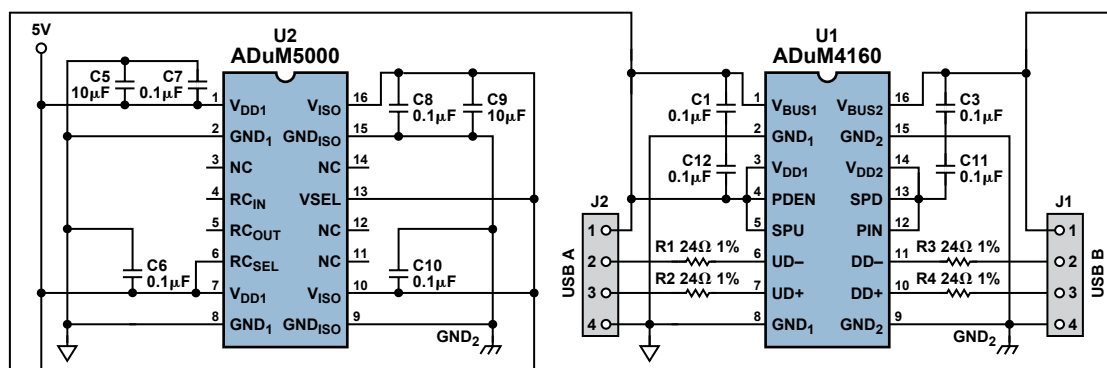

Figure 9. Isolated cable interface including *isoPower*.
- It can be used in an isolated cable configuration (Figure 9).
Driving an isolated USB cable (Figure 9) requires use of a dc-to-dc converter to supply power to the downstream port and cable. To satisfy the requirements of the USB specification, the downstream segment of the cable must provide 5-V power to the pull-up of the peripheral device. An isolated dc-to-dc converter, such as the ADuM5000, can provide this power with enough left over to provide power for downstream devices with low power requirements. Figure 9 shows the use of an ADuM5000 *isoPower*® device.⁴ In this application, the hard-wired speed pins of the ADuM4160 become somewhat inconvenient. The cable will only operate at one USB speed at a time; it must be rewired to switch speed modes, either manually, by simple switches, or with more elaborate circuits, depending on the end-user's requirements.